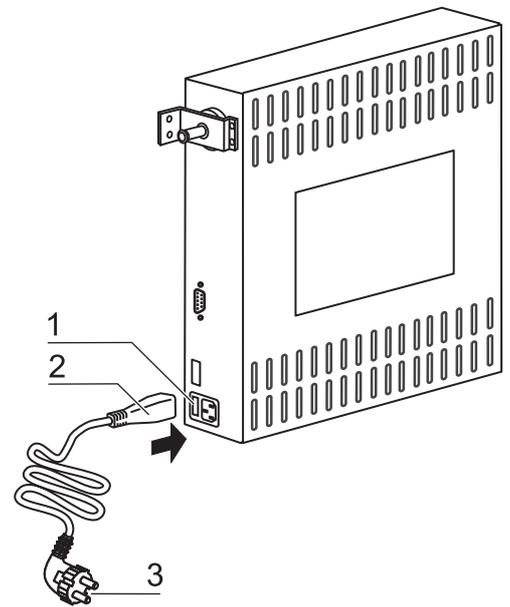

Fig. 15
1. Before connecting the device to the power supply, check to see if the voltage of the power supply corresponds with the specifications on the nameplate at the front of the device. If the ratings given for voltage (V) and current (A) are not correct, the device must not be connected to the power supply.
2. **Fig. 15:** Connect the connector for non-heating appliances [2] to the socket [1] at the control box of the device.